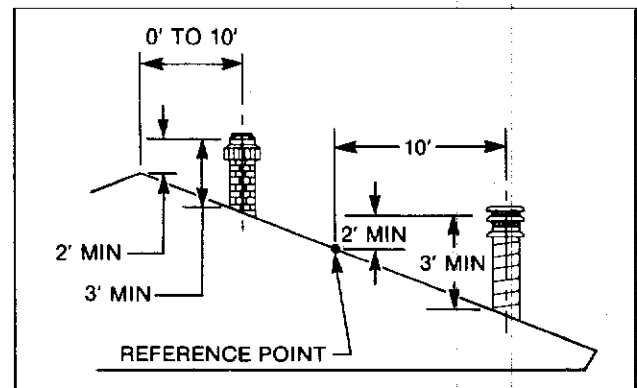

Fig. 29. Ten foot rule for chimney height.
Major U.S. building codes specify minimum chimney height above the roof top. These specifications are summarized in what is known as the "Ten Foot Rule." (See Fig. 29.) The key points of this rule are:
2. If the horizontal distance from the center of the chimney to the peak of the roof is more than 10 feet, a chimney height reference point is established that is on the surface of the roof a distance of 10 feet from the center of the chimney in a horizontal plane. (See Fig. 29.) The top of the chimney must be at least 2 feet above this reference point, but never less than 3 feet in height above the highest point where it passes through the roof.